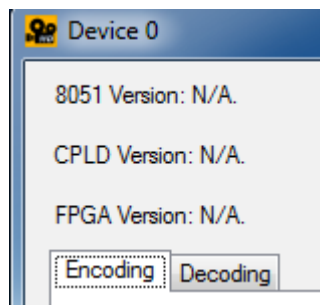

**Figure 4-3: Encoding Settings**
**Step 3:** Click the Device # button. The Encoding window appears (**Figure 4-3**). Choose the video input format which depends on the video device. **The video format selected here must be same with the HDMI input video format.** The available options include: